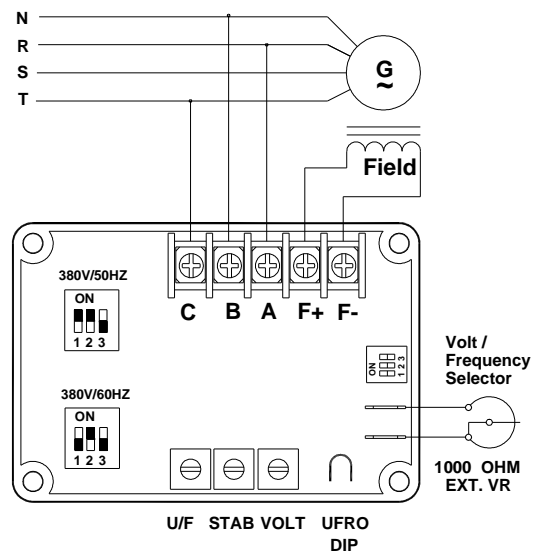

Figure 4
2. When the rated phase voltage of the generator is 380V, 440V, the input terminals B, C and sensing terminals A, C must separate connect the wiring (as show as Figure 4 or Figure 5). The voltage between B and C must not be over 300 VAC.